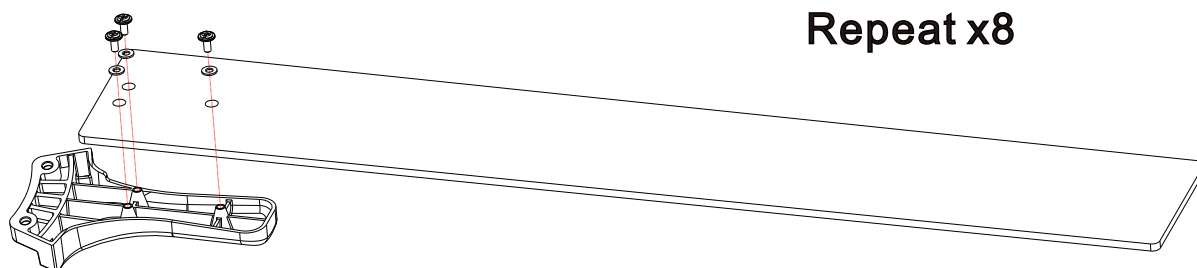

Fig 3
- Fix the blade to the blade bracket with screws and washers. (Fig 3)